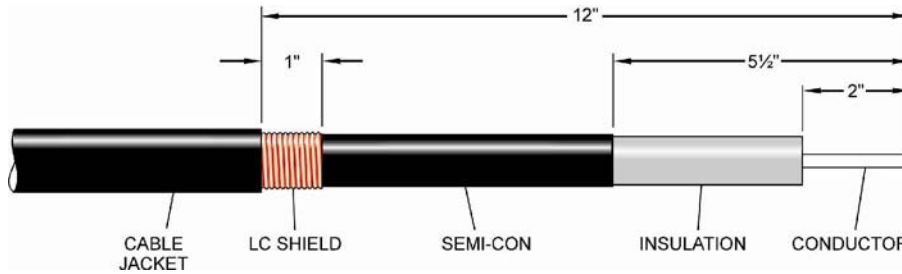

FIGURE 4
- STEP 4: REMOVE THE AMOUNT OF CABLE JACKET SHOWN IN FIGURE 4.
- STEP 5: REMOVE THE LC SHIELD, EXCEPT FOR THE LENGTH SHOWN IN FIGURE 4 WHICH WILL EXTEND BEYOND THE END OF THE CABLE JACKET.
STEP 6: USE AN APPROPRIATE TOOL AND SCORE THE SEMI-CONDUCTIVE INSULATION SHIELD SO THE LENGTH OF THE SHIELD SHOWN IN FIGURE 4 CAN BE REMOVED; HOWEVER, DO NOT REMOVE THE SHIELD AT THIS TIME.
STEP 7: REMOVE THE AMOUNT OF INSULATION SHOWN IN FIGURE 4.
STEP 9: VERIFY THAT ALL CUTBACKS HAVE BEEN MADE TO THE PROPER DIMENSION. CORRECT THE INSULATION AND SEMI-CONDUCTIVE SHIELD CUTBACKS IF THEY ARE NOT WITHIN 1/8" OF THE DIMENSIONS PROVIDED IN FIGURE 4.